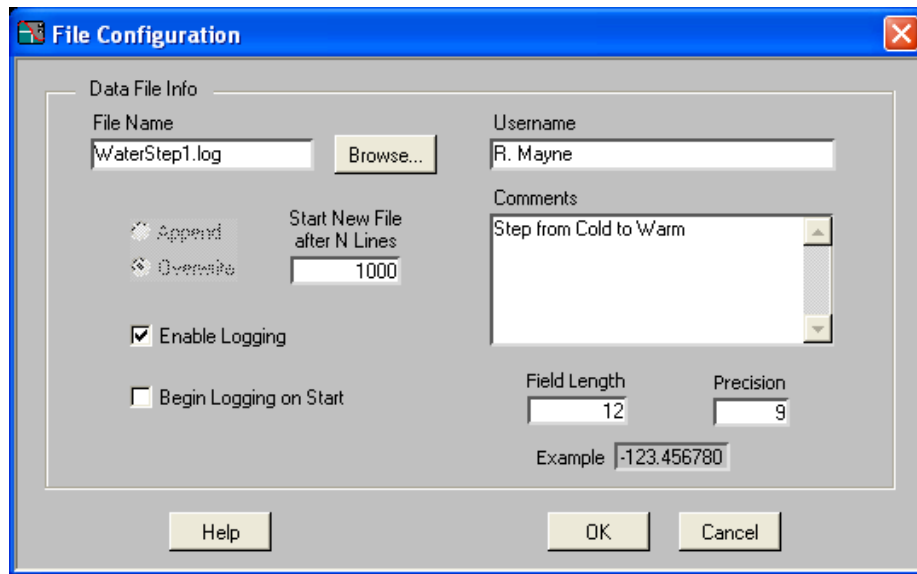

Figure 10. Data Logger File Configuration Window
- In Figure 10, **use the Browse button** to locate an appropriate location (perhaps MyDocuments or c:\temp) and change the file name to something meaningful to you (make sure to keep the .log extension).